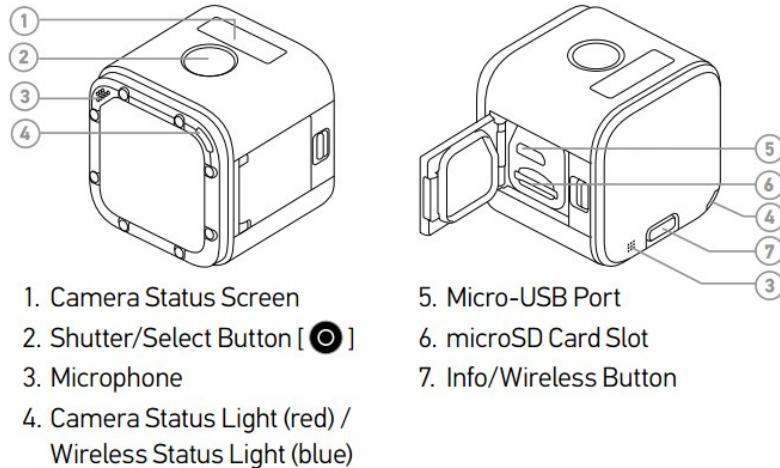

Figure 16: GoPro© HERO4 SessionTM Camera Parts
- Refer to Figures 16 and 17 for camera and tablet setup